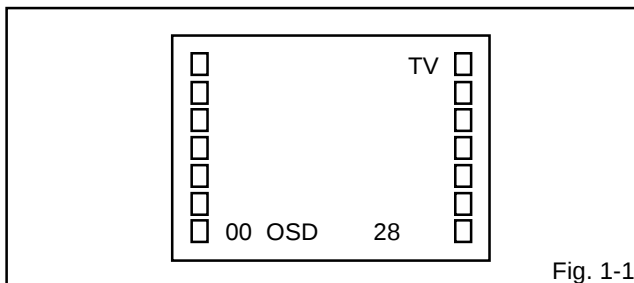

Fig. 1-1
1. In the condition of NO indication on the screen. Press the VOL. DOWN button on the set and the Channel button **(9)** on the remote control for more than 2 seconds to appear the adjustment mode on the screen as shown in **Fig. 1-1**.
4. Activate the adjustment mode display of **Fig. 1-1** and press the channel button **(01)** on the remote control to select "CUT OFF".
4. Activate the adjustment mode display of **Fig. 1-1** and press the channel button **(10)** on the remote control to select "R.BIAS".
2. Activate the adjustment mode display of **Fig. 1-1** and press the channel button **(06)** on the remote control to select "V.SIZE".
3. Activate the adjustment mode display of **Fig. 1-1** and press the channel button **(22)** on the remote control to select "TINT".